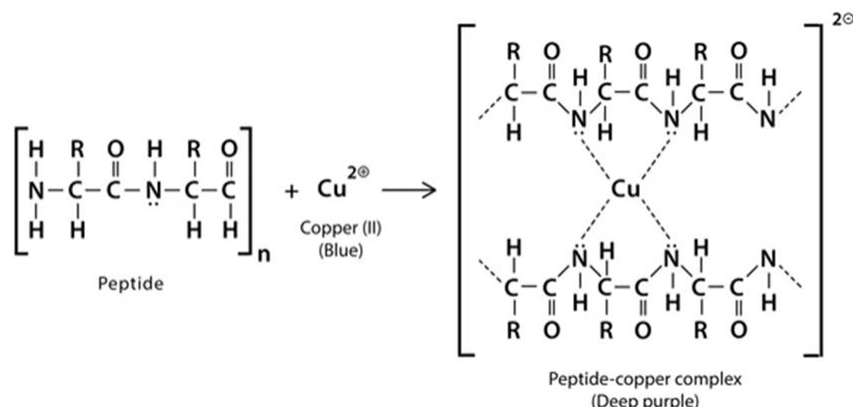

Figure A2. A general reaction scheme for the Biuret method.
5. Use a 5.000 mL autopipette to dispense 4.000 mL of the pre-prepared Biuret reagent (the copper (II) sulfate basic solution) into every test tube, 1-6 and X1, X2 and X3.
7. Return the test tube racks to your desk and wait 30 minutes for the Biuret reaction (see **figure A2**) to take place. In the meantime, complete the 'BSA concentration' column in **table A1** by calculating the concentration of BSA present in the 5.000 mL of solution prepared in test tubes 1-6.